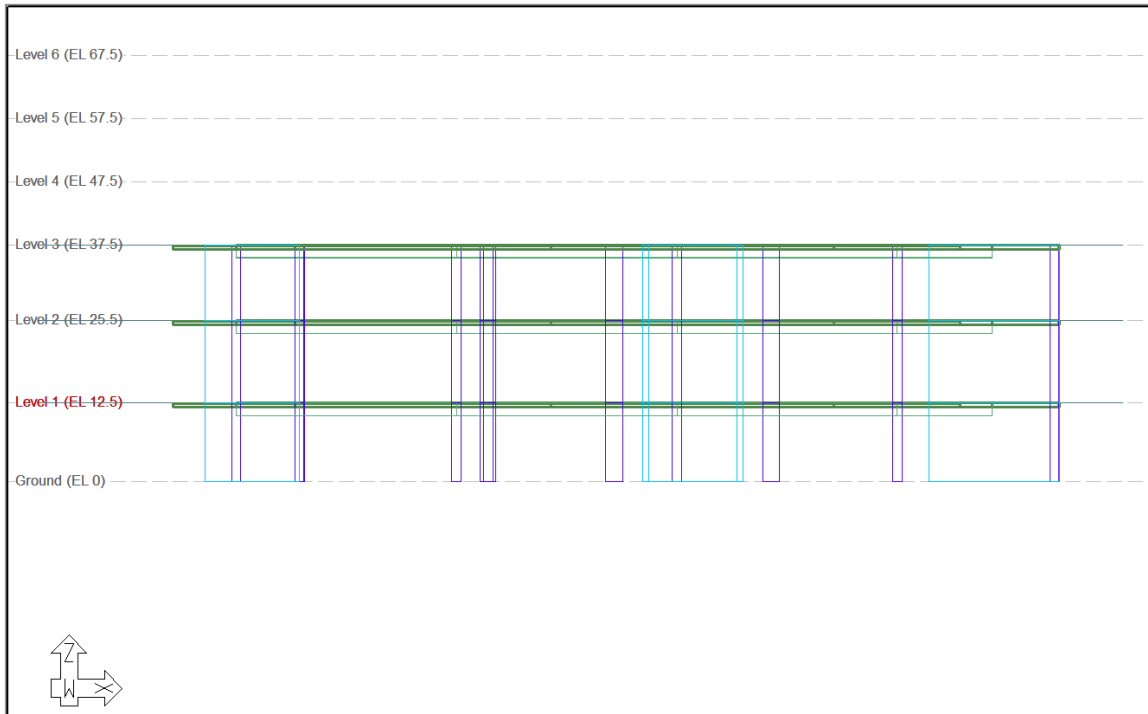

FIGURE 4-5
- Click on the **Front View**  icon in the *Bottom Quick Access* toolbar. This will bring you to the view of the model shown in **FIGURE 4-5**.